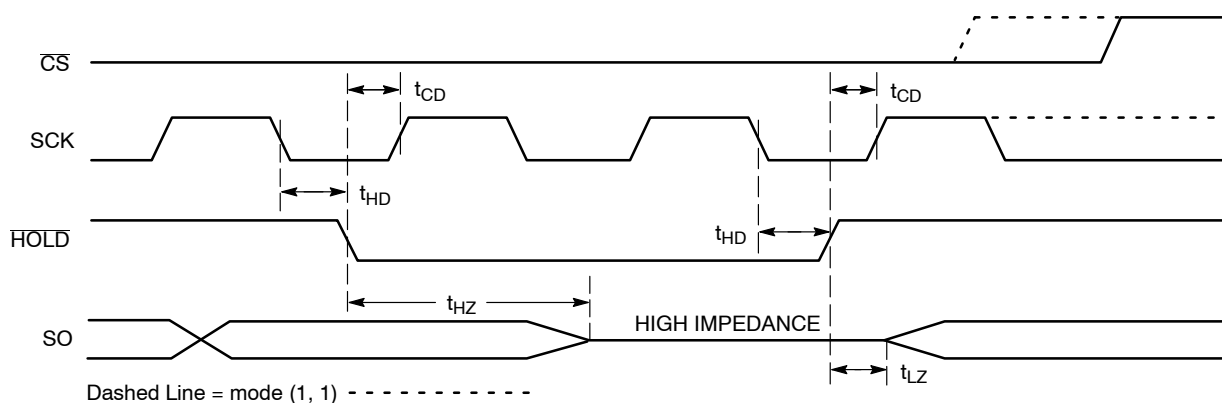

Figure 11.  $\overline{\text{HOLD}}$  Timing
The  $\overline{\text{HOLD}}$  input can be used to pause communication between host and NV25512. To pause,  $\overline{\text{HOLD}}$  must be taken low while SCK is low (Figure 11). During the hold condition the device must remain selected ( $\overline{\text{CS}}$  low). During the pause, the data output pin (SO) is tri-stated (high impedance) and SI transitions are ignored. To resume communication,  $\overline{\text{HOLD}}$  must be taken high while SCK is low.